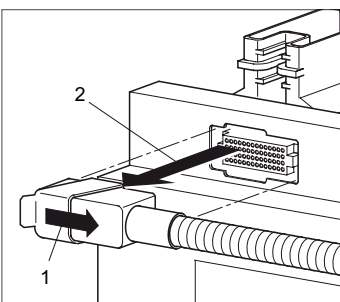

Fig. 4.6
- Pull interlocking slide of low-voltage connector forward (Fig. 4.6, 1) and remove the connector (2).